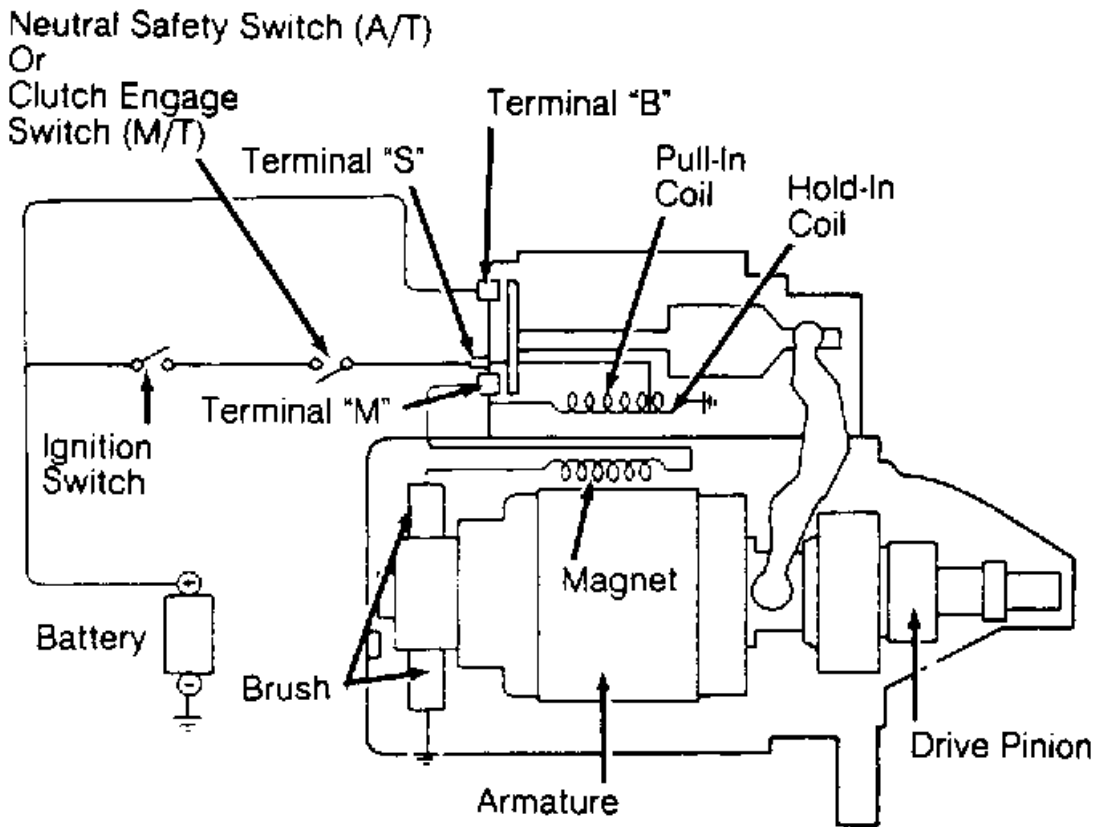

Fig. 1: Starter System Schematic
- Using a digital voltmeter, connect positive voltmeter lead to starter solenoid terminal "S", and negative lead to starter housing. See Fig. 1.